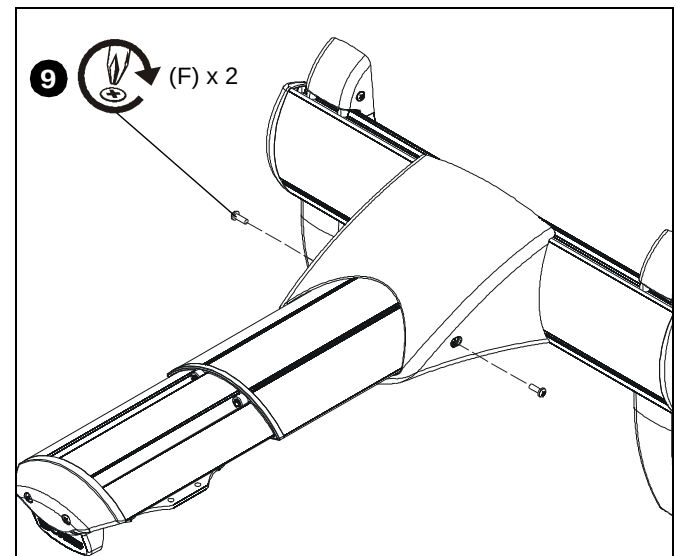

Figure 37
9. Reinstall two #8-32 x 1/2" Phillips pan machine screws (F) through holes on sides of outer cover. (See Figure 37)
2. Adjust mount to desired extension length. (See Figure 37)